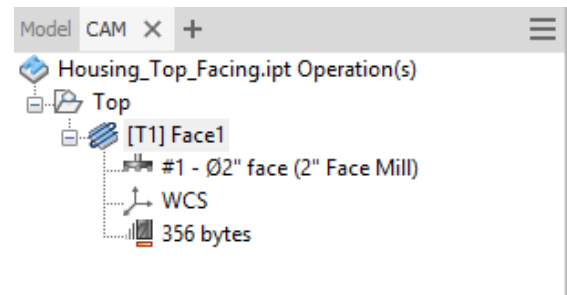

Figure 18
6. Click **OK** at the bottom of the palette to complete the toolpath. Once the toolpath is completed, it is added to the active setup and is listed in the CAM browser, as shown in Figure 18.
- Expanding the toolpath node reveals more details about the toolpath, as shown in Figure 18, including the tool name and size, WCS, and toolpath size.